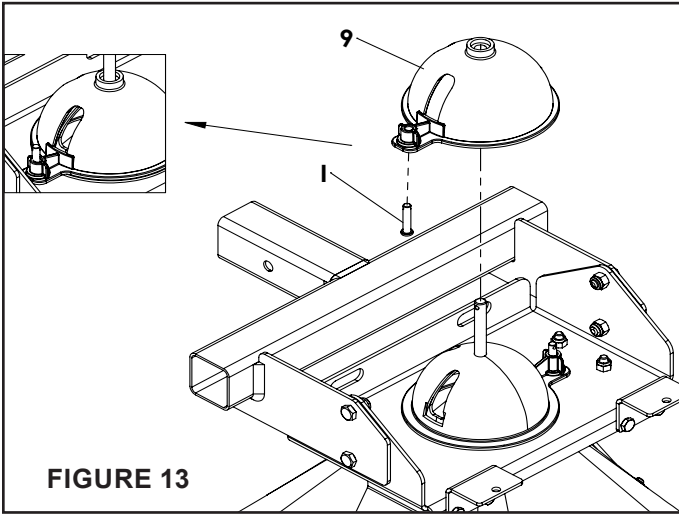

FIGURE 13
STEP 13: (SEE FIGURE 13)
- Install a clevis pin (I) into outer gate (9) as shown. (9 has a cut out)
- Install outer gate (9) onto the impeller shaft making sure the two openings are open and lined up. Needs to be orientated as shown in image.